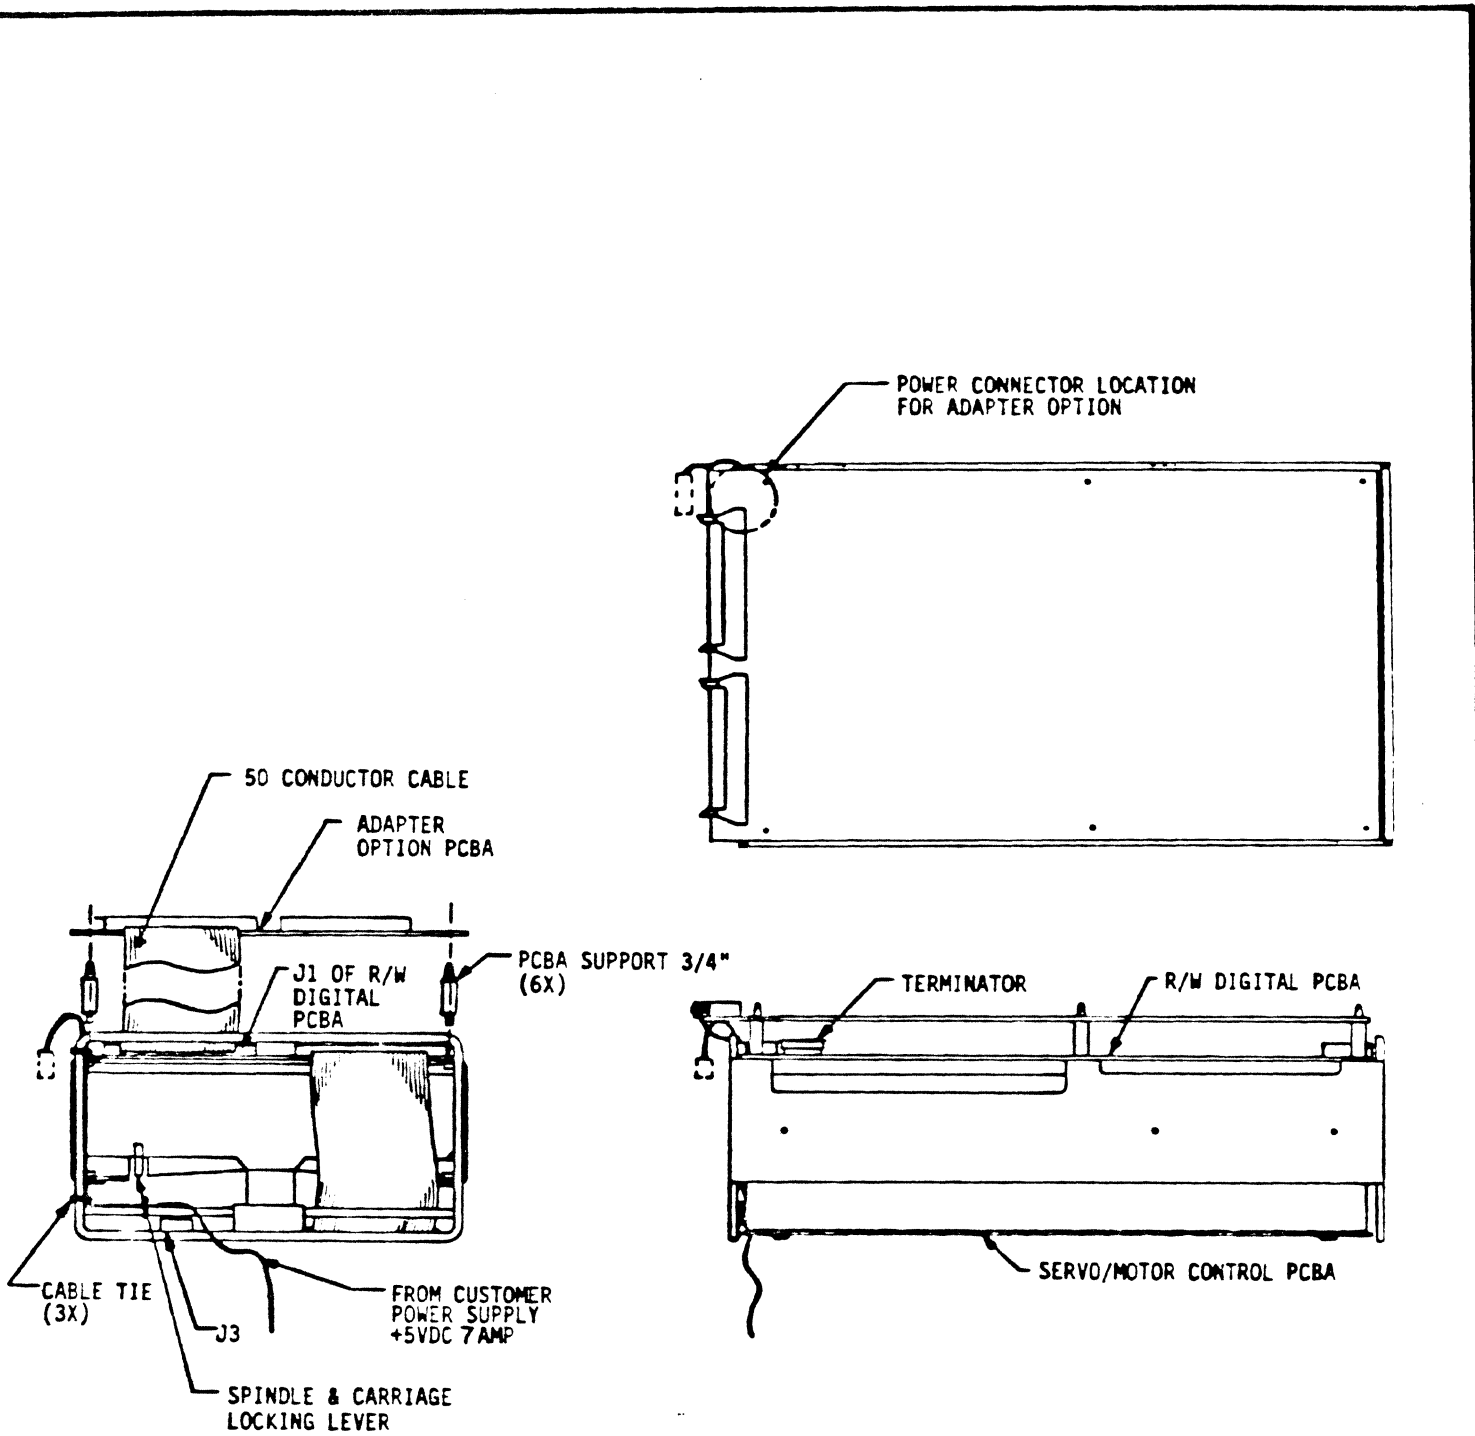

FIGURE 2. SMART T INSTALLATION ON 8" DRIVE
This section describes how to mount a PRIAM SMART T controller on a PRIAM 8-inch drive (see Figure 2). Refer to Section 4 for mounting the controller on a 14-inch drive.
- g. Mount controller on the 3/4-inch PCBA supports. Press firmly until supports come through mounting holes and lock. Orientation of controller should be as shown in figure 2 with J1 of controller directly over J1 of RW/DIGITAL PCBA.
- j. Connect the 2 pin power connector to J3 of SMART T PCBA. Refer to Figure 2. IMPORTANT: Insure that lip of connector is facing up, locks with J3 receptacle, and the RED, +5 volt wire is toward the outside edge of the PCBA.
- k. Route the source power cable assembly using tie wraps as shown in Figure 2.